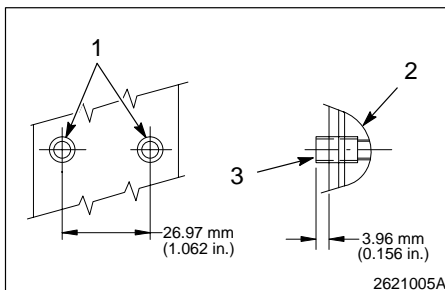

Fig. 2 Mounting dimensions
See Figure 2. Figure 2 shows the mounting plate preparation specifications for mounting the dispensing valve.
Press the two hollow dowel pins (3) into the dispensing valve body (2) as shown in Figure 2.